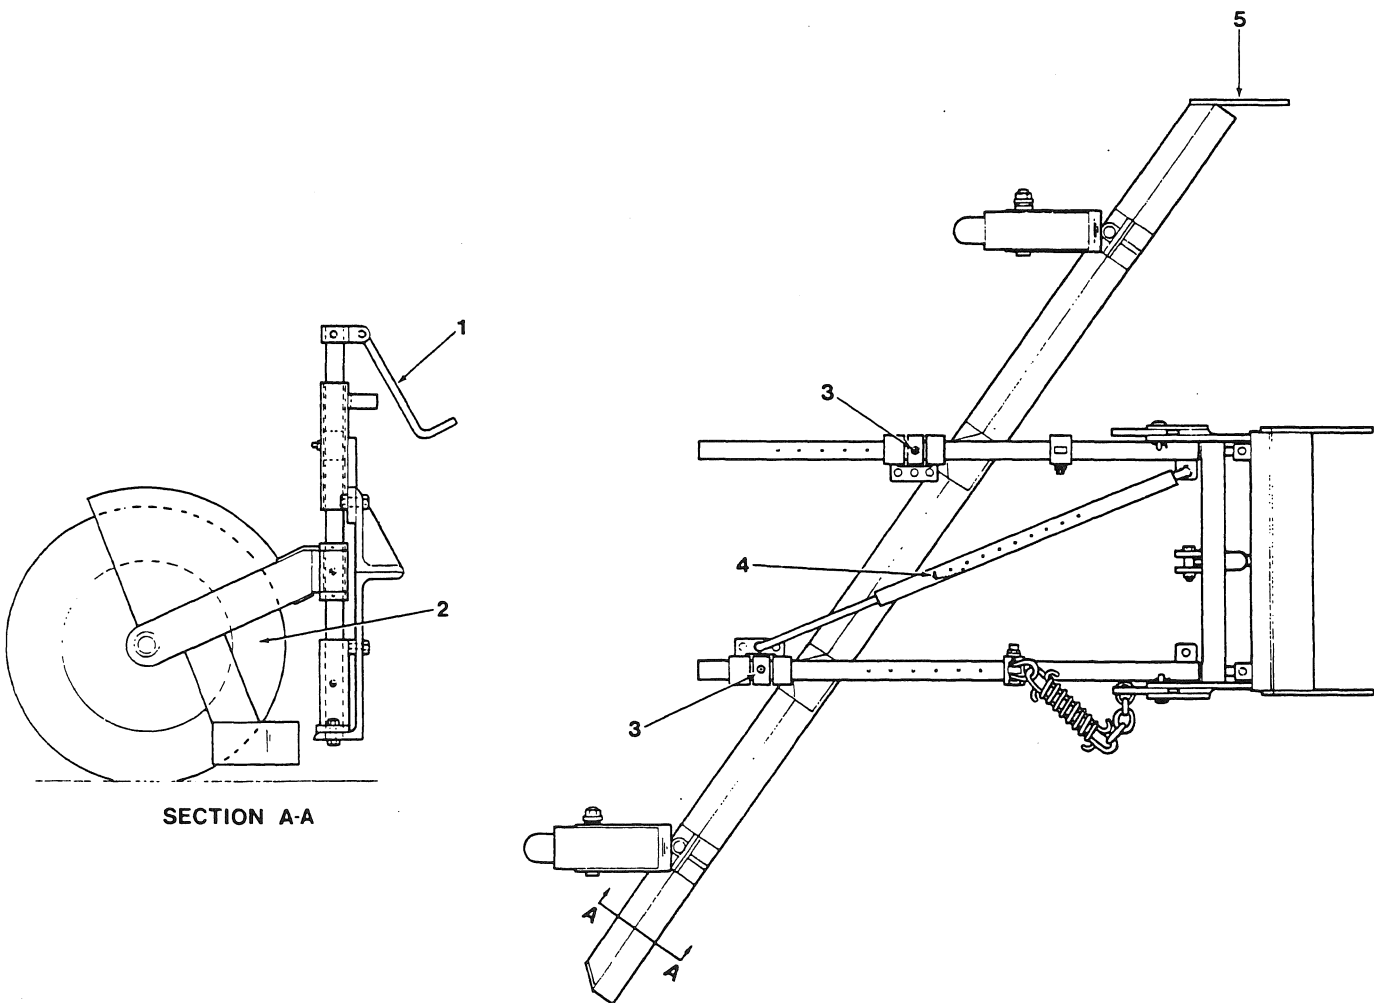

Figure 14
21. Arrange the lift collars in an offset configuration (refer to Fig. 14) and secure with the square head set screws (71) and jam nuts (72). Install the chains in the chain plates.
25. Adjustments (Fig. 14). Various adjustments are available depending upon the prevailing working conditions. The adjustments are as follows:
- a. Moldboard Height. Remove the adjusting spindle handle (1) from the clip, and turn the handle to raise or lower the wheel (2). The moldboard will be raised or lowered accordingly. Secure the handle in the clip. Repeat for the other wheel.
- b. Moldboard Angle. The moldboard angle can be varied by raising the attachment, releasing the pull collar set screws (3) and removing the adjusting link assembly lock pin (4). Move the moldboard to the desired angle, install the lock pin and secure the set screws. If the moldboard angle has been adjusted from one extreme to the other, remove the three carriage bolts, nuts and lockwashers retaining the end shoe (5) and install on the opposite end of the moldboard. Also, alternate the offset position of the lift collars, and adjust the chain tension accordingly.
- c. Moldboard Reach. The complete attachment can be angled to either side of the grader by releasing the adjusting link assembly lock pin (4) and extending or retracting the inner arm inside the outer arm until the desired amount of reach is obtained. Install the lock pin. The pull tubes will remain parallel.